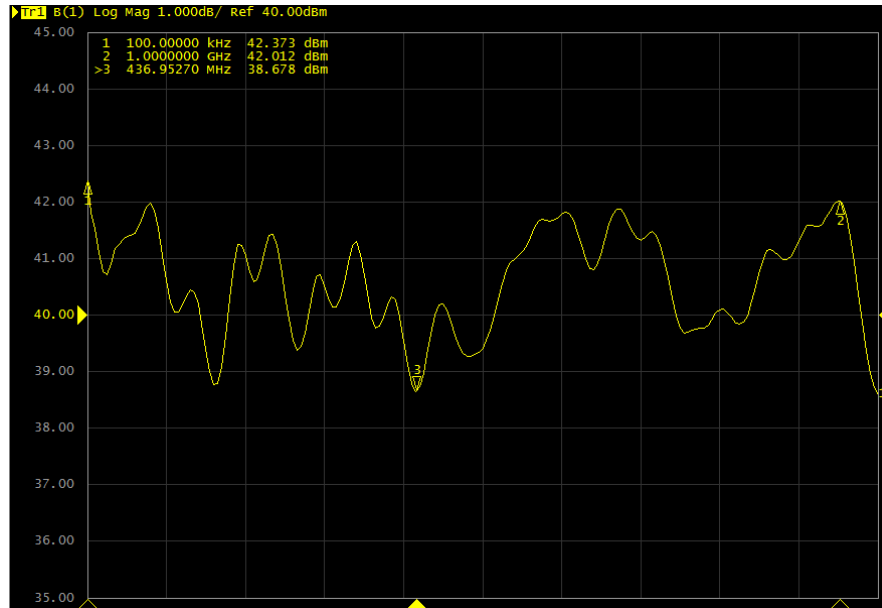
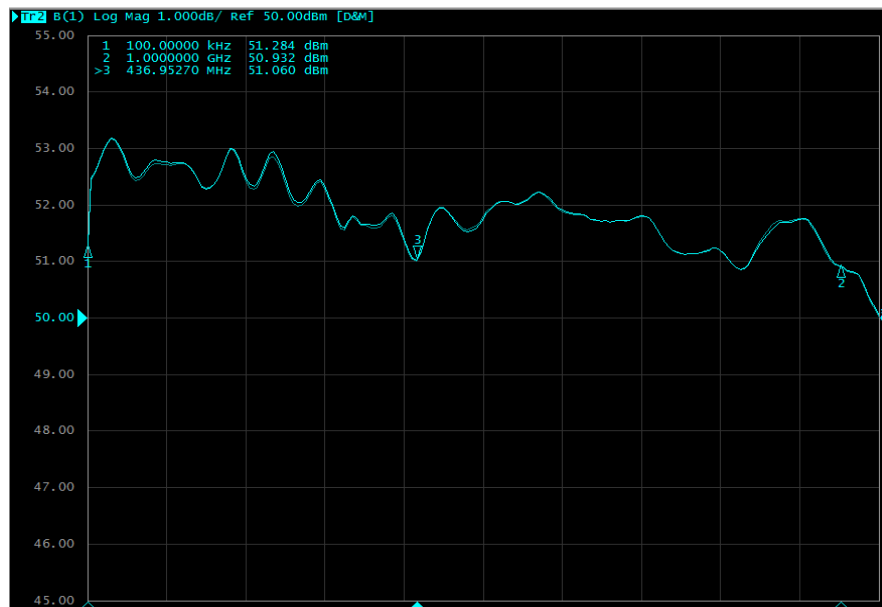

Figure 4-1. Typical Response at -20dBm Input
Figure 4-2. Typical Response at 0 dBm Input
1. The Model 100U1000's typical gain response at -20 dBm input and 0 dBm input is shown in Figure 4-1 and Figure 4-2. The actual gain may vary considerably from that shown in Figure 4-1 but should be ≥ 50 dBm at 0dBm input.